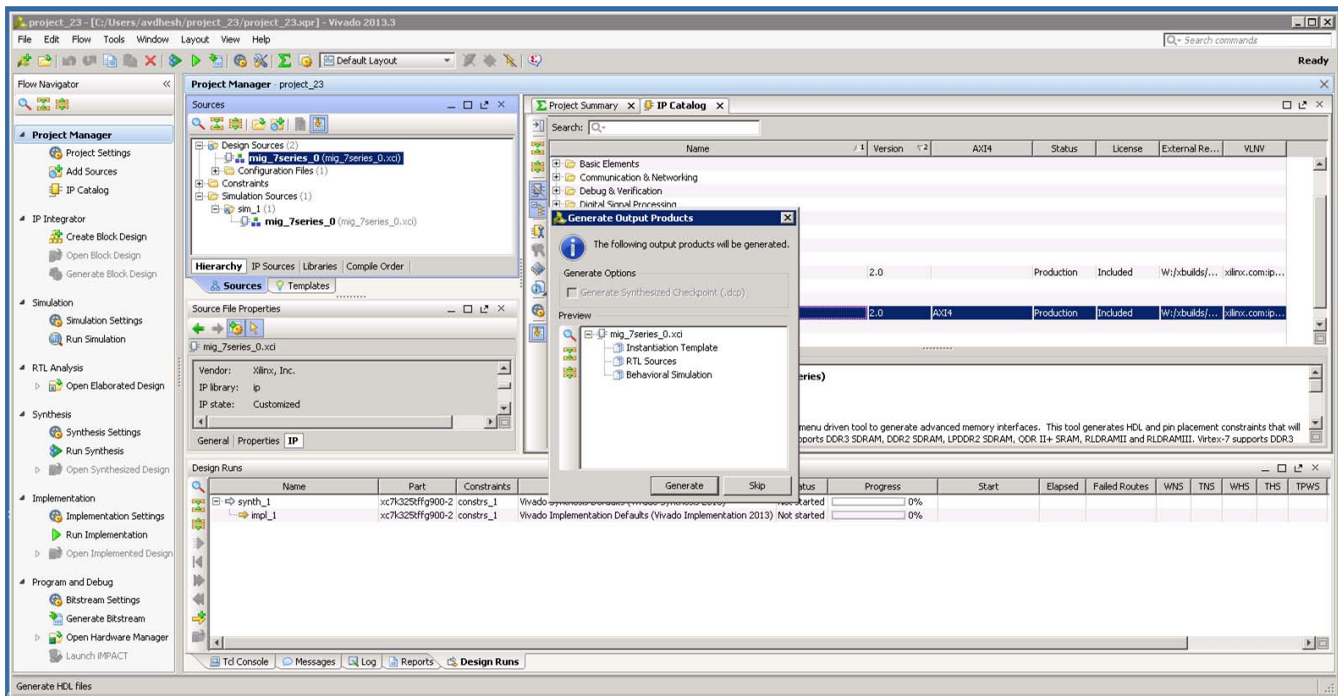

Figure 1-34: Generate Window
7. Clicking the **Generate Output Products** option brings up the **Manage Outputs** window (Figure 1-34).